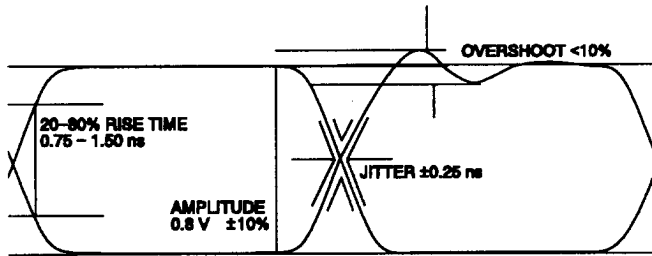

Fig. A-7. Eye pattern specs for the serial signal. Displays the amplitude, jitter, overshoot, and rise and fall times.
- a. Connect the equipment as shown in Fig. A-7.